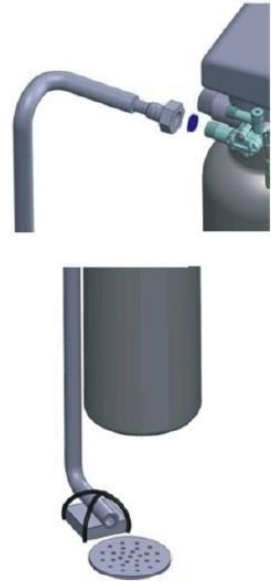

Figure 1-4
- a. As the Figure 1-4 shows, slide the drain hose connector into drain outlet.
- d. Locate the drain hose well as the Figure1-4 shows.
●Be sure not connect drain with sewer, and leave a certain space between them, avoid wastewater be absorbed to the water treatment equipment, such as showed in the Figure1-4.